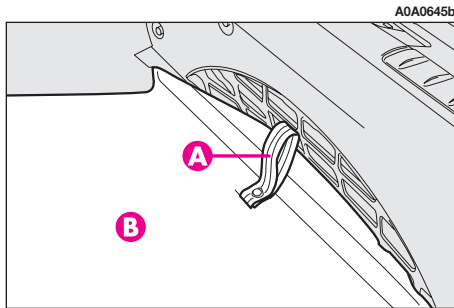

fig. 2
- Use handle **(A-fig.2)** to remove the stiff covering **(B)**.